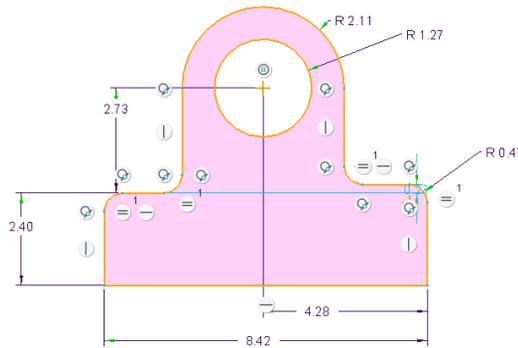

Figure 3-49 Sketch after dimensioning
2. Dimension the sketch, as shown in Figure 3-49.